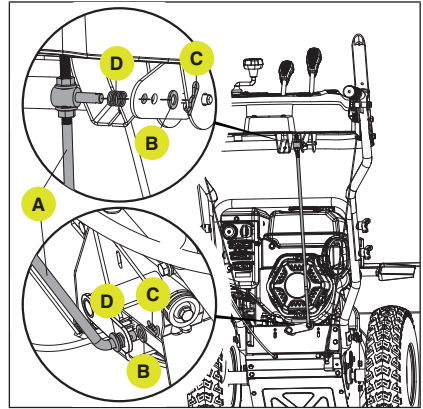

Figure 5
1. Attach the connecting lever (A) and connecting base with clip under the panel. Remove the washer and clip, insert as shown into the connecting base, then install the washer (B) and clip (C). Make sure the spring (D) is loaded on the correct side. (Fig. 5)
2. Connect the other end of the connecting lever (A) and speed adjusting handle with clip on the base. Remove the washer and clip, insert as shown into the connecting base, then install the washer (B) and clip (C). Make sure the spring (D) is loaded on the correct side. (Fig. 5)